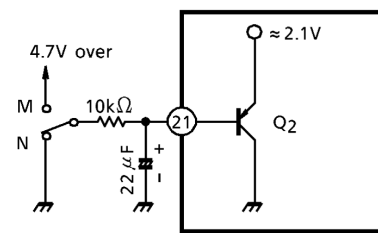

Fig.3
Pin(21) is coupled to the base of Q₂ (PNP-Tr) as shown in Fig.3.